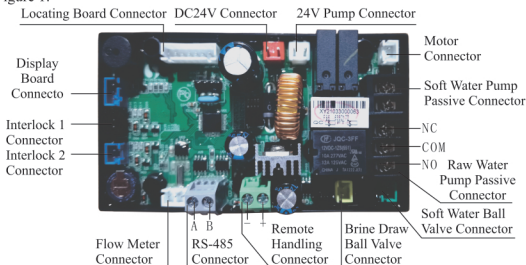

Figure 1
A) The connectors of control board of F112C3 (93640), F112C1 (93540) are shown as Figure 1: